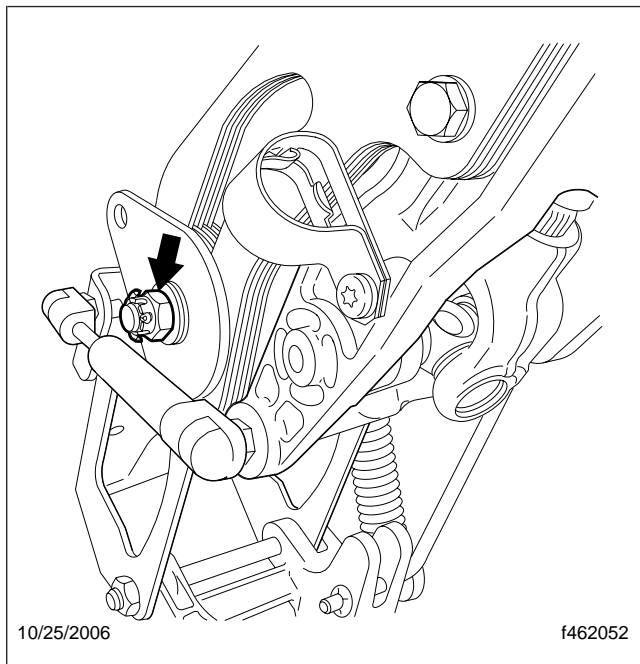

Fig. 3, Castle Nut
6. Locate the castle nut on the left side of the column, and remove the cotter pin. See Fig. 3.